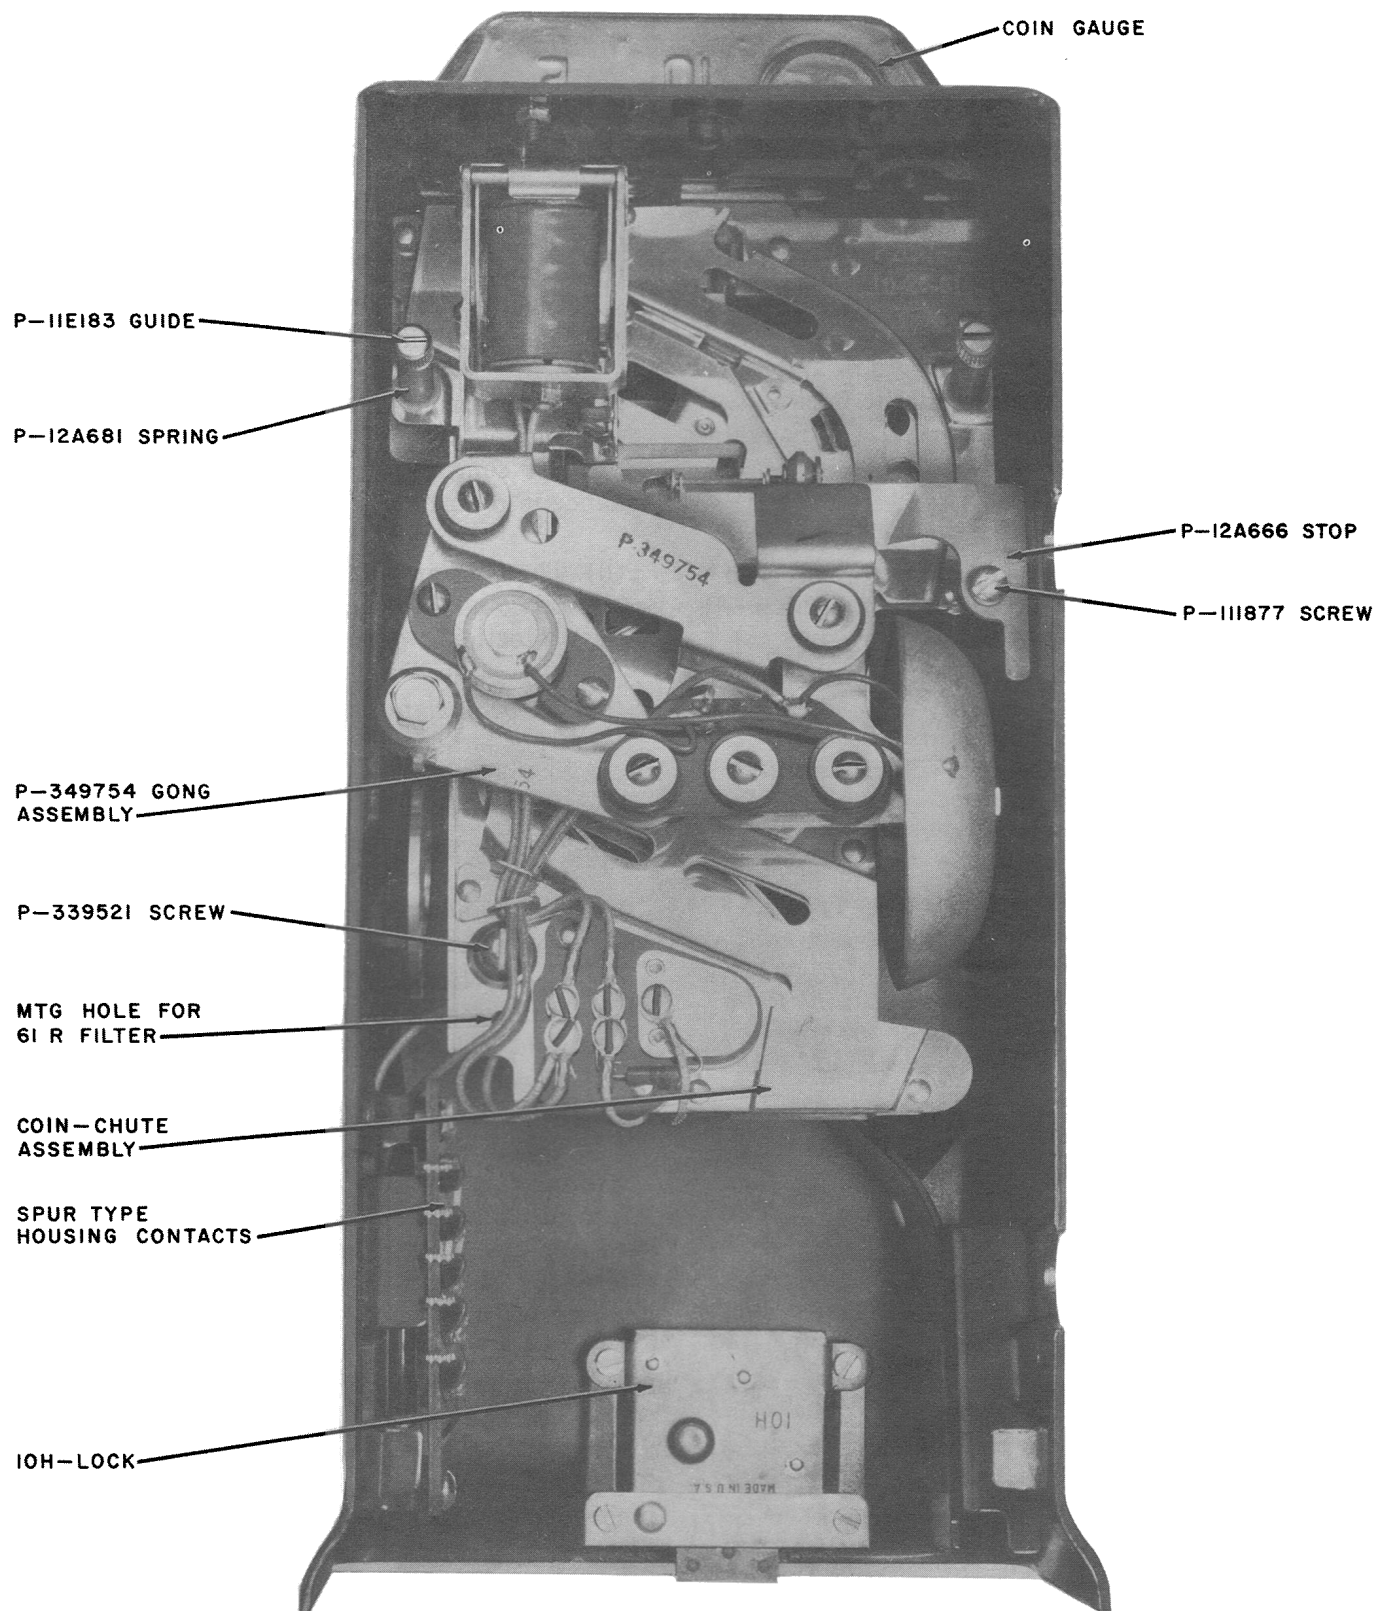

Fig. 3 — Upper Housing, Rear View
- (a) Coin chutes or coin assemblies are mounted inside the upper housing. Assemblies associated with the washer reject feature use two P-11E183 guides, two P-12A681 restoring springs, and one P-339521 screw (Fig. 3). Older coin collectors use two P-12A680 screws instead of guides. Coin chutes not associated with washer reject mechanisms are mounted with three P-339521 screws.
- (f) A61R radio-frequency suppression filter, although normally attached to the coin chute, is not considered a part of the chute assembly. The filter, when used, mounts on the rear of the coin chute at the lower left corner. A mounting hole (Fig. 3) is provided. Dial postpay coin collectors are normally equipped with 61R filters and are identified by a red dot located on the back of the coin gauge.